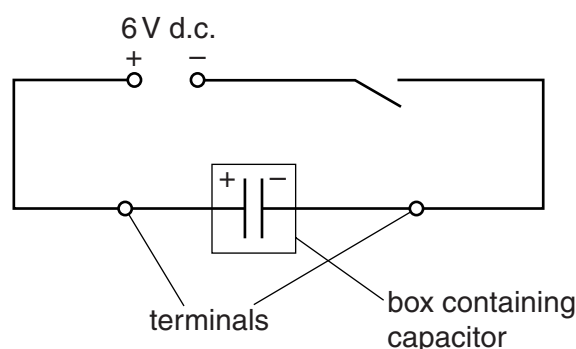

Fig. 1.1
- 3 The power supply, capacitor and switch should be connected as shown in Fig. 1.1, with connections taped to discourage disconnection by the candidate.
- 4 If the apparatus is to be used by a second candidate, then it should be returned to the state shown in Fig. 1.1. The remaining components should be disconnected and laid out on the bench, with all resistors removed from the component holder.